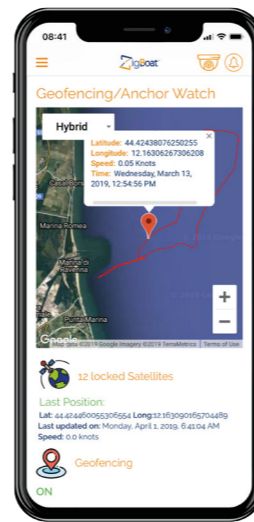

Fig. 10
- In the daily tracking section you can select a day (up to 100 days) and view the route on the map, with info about average speed and miles traveled. Furthermore, by clicking on the route, you can view the following information on the map (fig. 10):